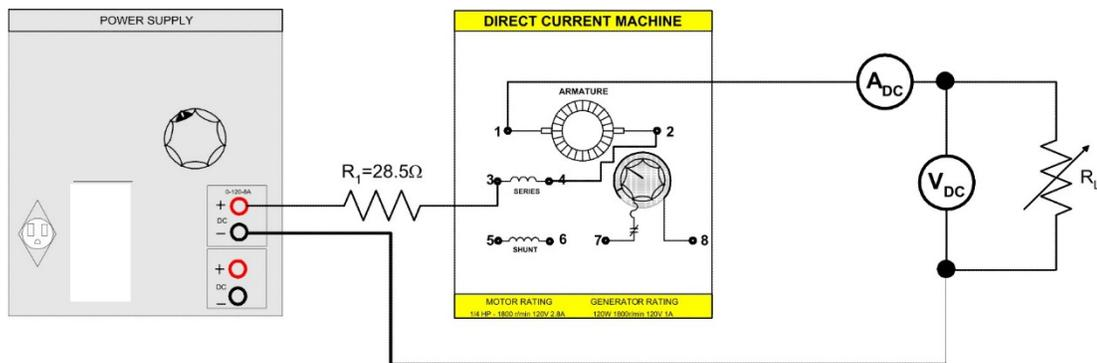

FIGURE 12.14
Step 10: a) Connect your series generator in the circuit as shown in Figure 12.14.